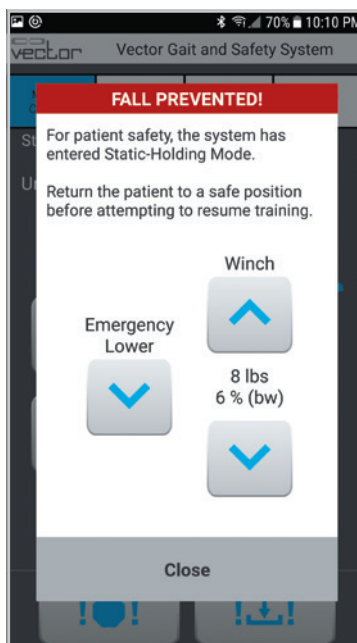

Figure 9-18: Fall Prevented Dialog Box
8. When a fall is detected, the treadmill will stop automatically and the treadmill controls will be disabled until the Fall Prevented dialog box is closed. See Figure 9-18.